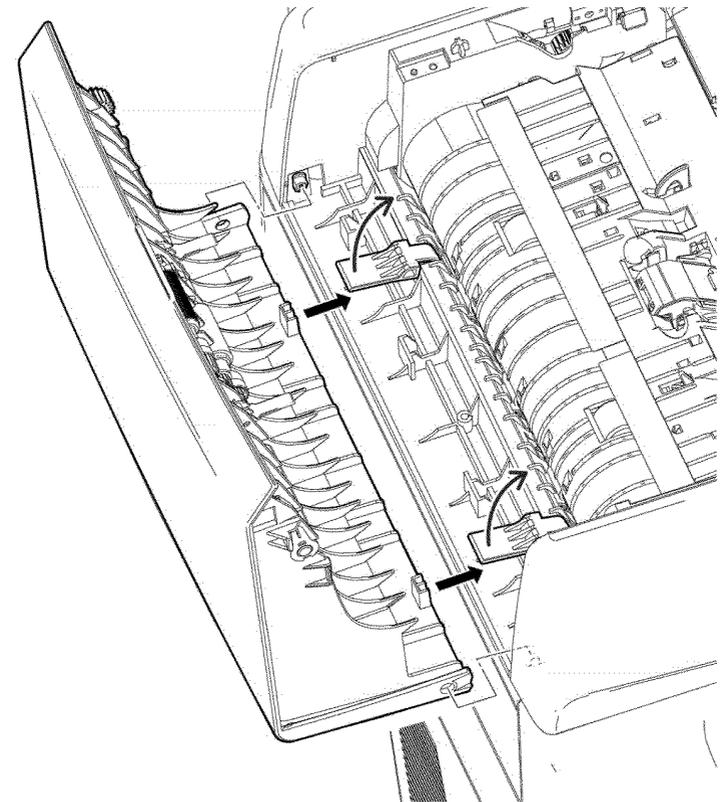

Figure 2 DADF top cover installation
2. When installing the DADF top cover, ensure the DADF top cover is positioned under the two black tabs, Figure 2.